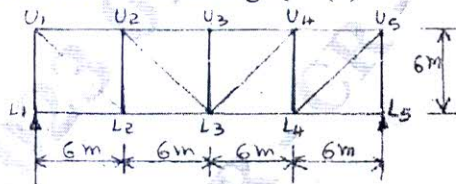

Fig.Q10(b)
b. Determine the influence line diagrams for the forces in the members U_1U_2 , U_2U_3 , L_2L_3 , U_2L_2 and U_2L_3 for the part truss as shown in Fig.Q10(b).